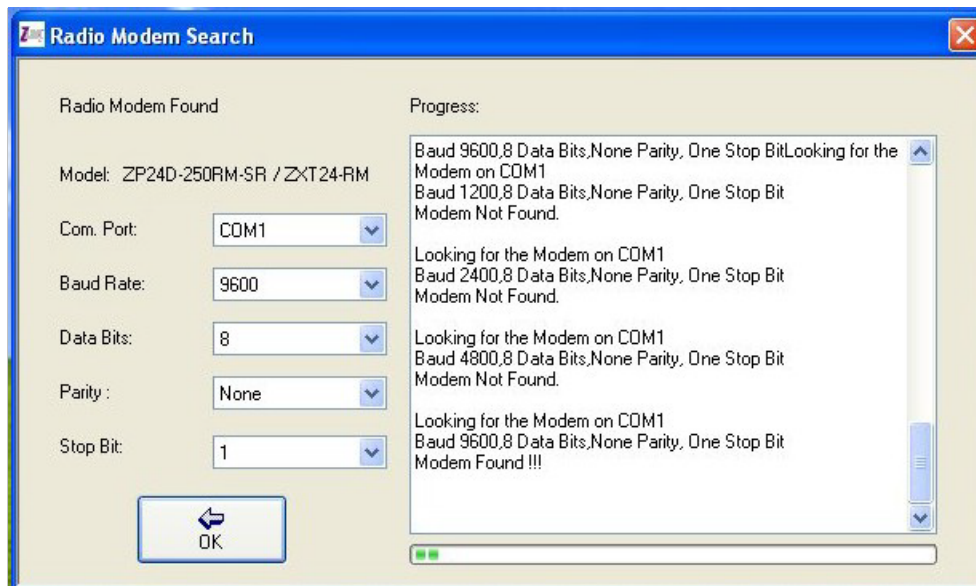
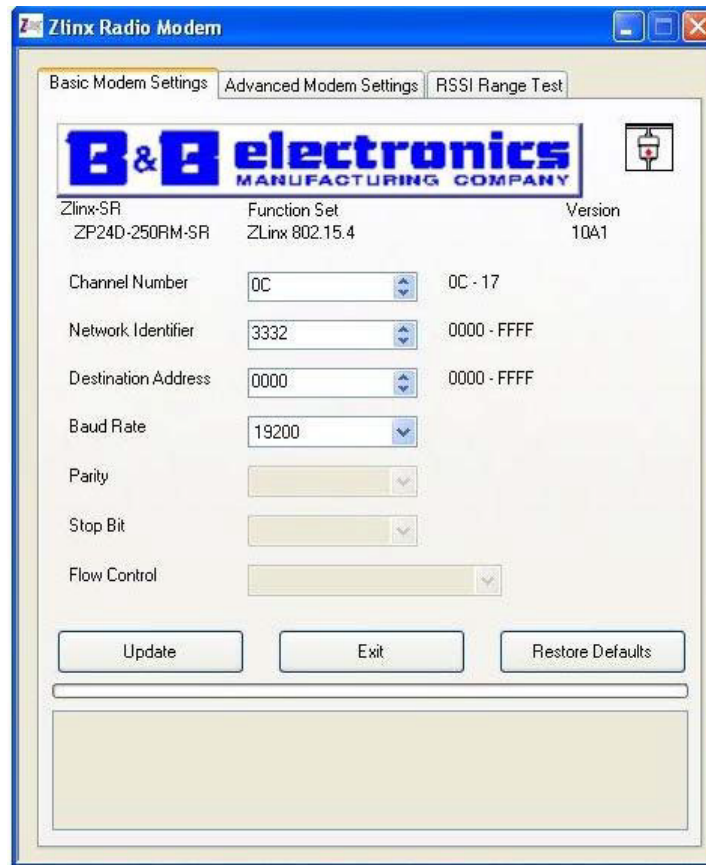

Figure 8. Radio Modem Search Results
Figure 9. Zlinx Radio Modem, Basic Modem Settings
11. Click on the **Search** button in the lower left corner of the window. The software program will search for the connection (Figure 8). The search will continue until the radio modem is found. The radio modem model, and communications parameters for the connection will be populated in the Radio Modem Search window.
12. Click on the **OK** button (Figure 8) to exit the Radio Modem Search window. The Zlinx Manager v3.0.0.22 - Zlinx Radio Modem, Basic Modem Settings will appear (Figure 9).
12. Click on the **Search** button in the lower left corner of the window. The software program will search for the connection as shown in Figure 8. The search will continue until the radio modem is found. The radio modem model, and communications parameters for the connection will be populated in the Radio Modem Search window.
13. Click on the **OK** button (refer back to Figure 8) to exit the Radio Modem Search window. The Zlinx Radio Modem, Basic Modem Settings will appear as shown in Figure 9.